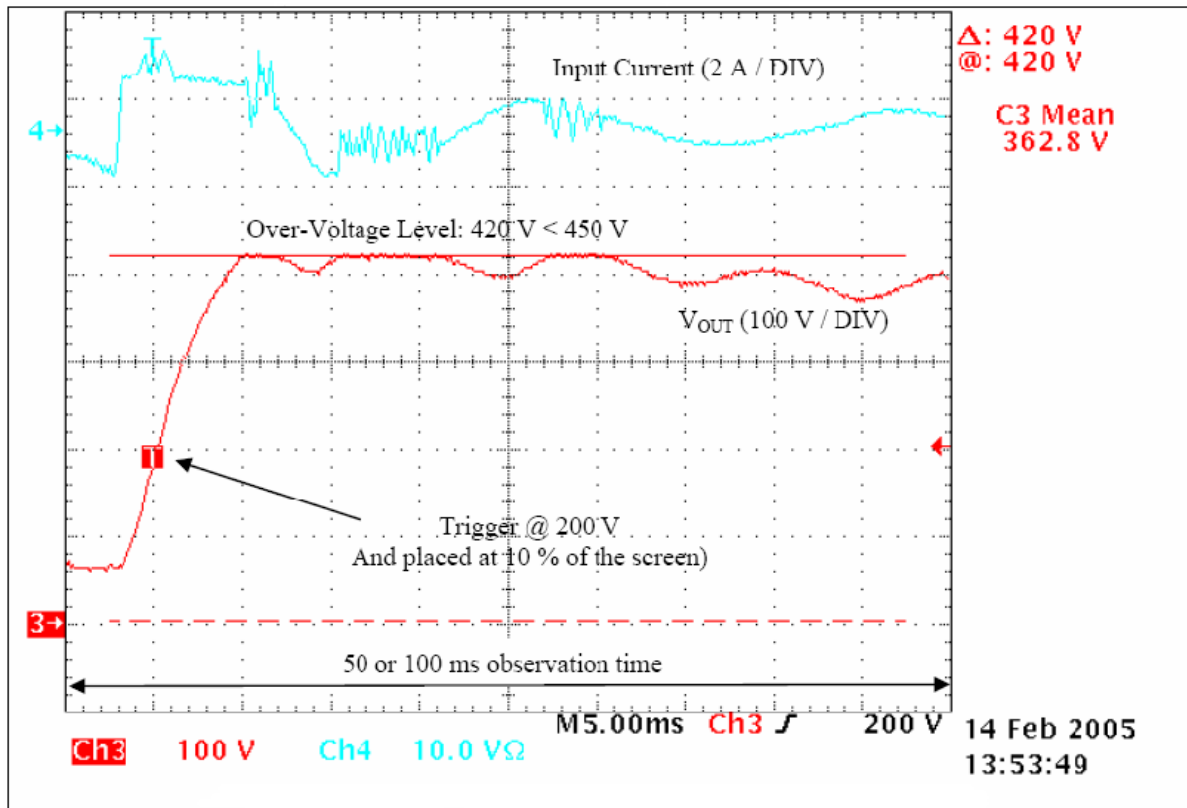

Figure 15. Over-Voltage Protection (Start-Up Sequence @ $220 V_{AC}$)
10. Abruptly apply the power source. Check that the output voltage keeps below 450 V (Over-Voltage Protection) (see Figure 15).